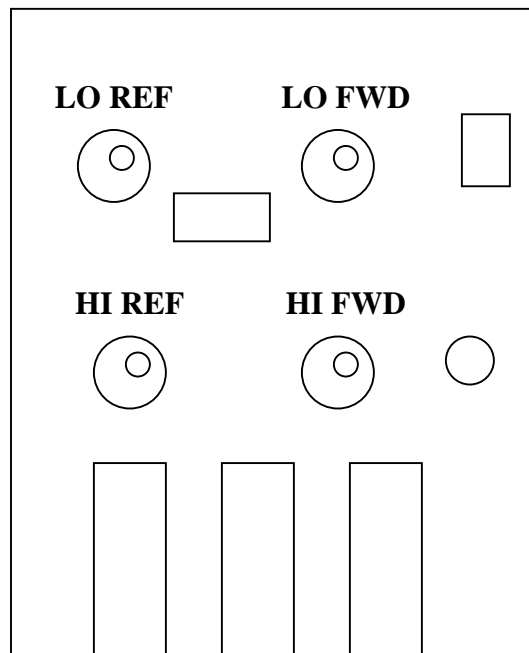

Figure 2: PCB Layout and Trim Pot Location
1. Refer to *Figure 1* for the Test Setup and refer to the PCB layout in *Figure 2* for trim pot location.